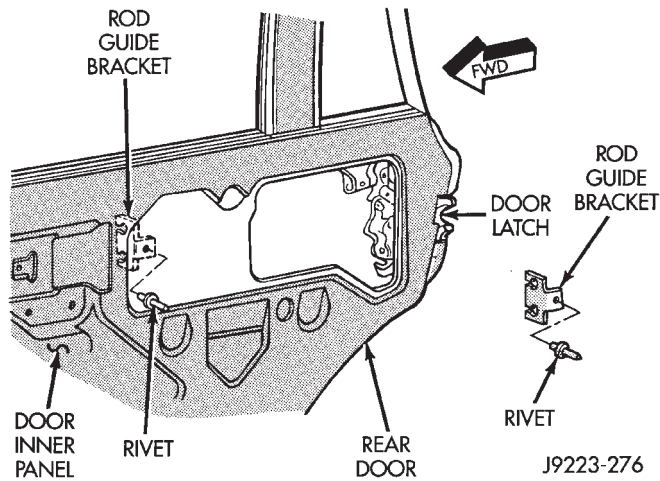

Fig. 85 Rod Guide Bracket Installation
- (1) Position the rod guide brackets and rods in the door.
- (2) Install rod the guide bracket rivets in the door inner panel (Fig. 85).
- (3) Install the door trim panel and waterdam.
- (4) Adjust the door latch as described in DOOR LATCH ADJUSTMENT.